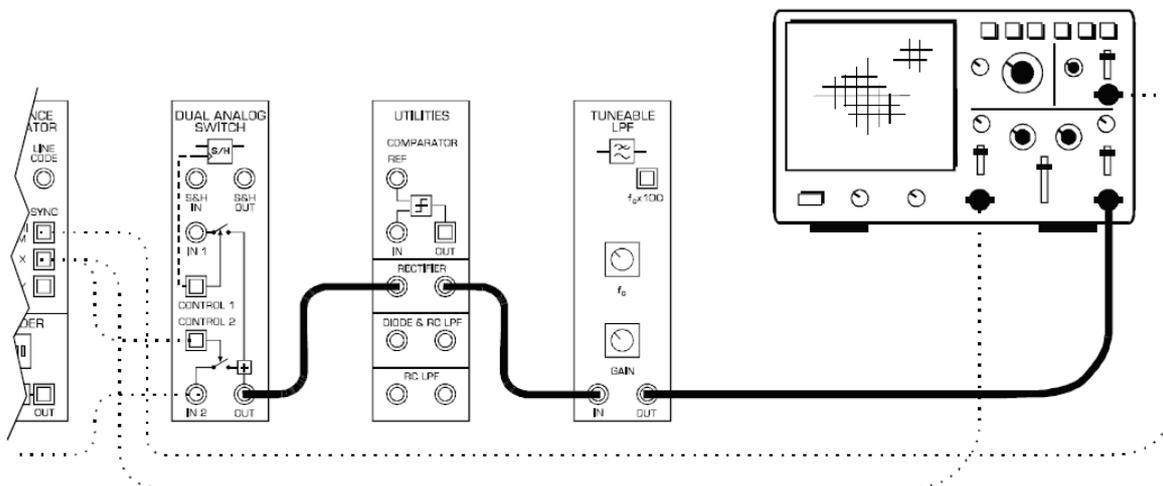

Figure 6: the set-up for an ASK demodulation
3. Modify the set-up as shown in Figure 6 below.